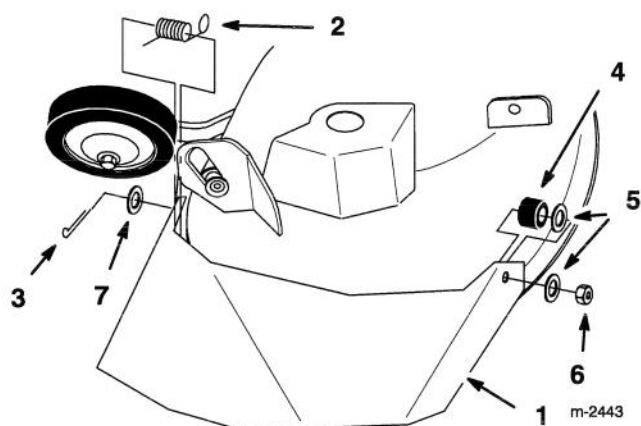

Figure 1
1. Place spring short end into small hole in the grass deflector (Fig. 1).
2. Position spring and grass deflector over post on rear of deck and secure with cotter pin (Fig. 1).
4. Place grass deflector over stud and secure with second plastic washer and lock nut (Fig. 1).